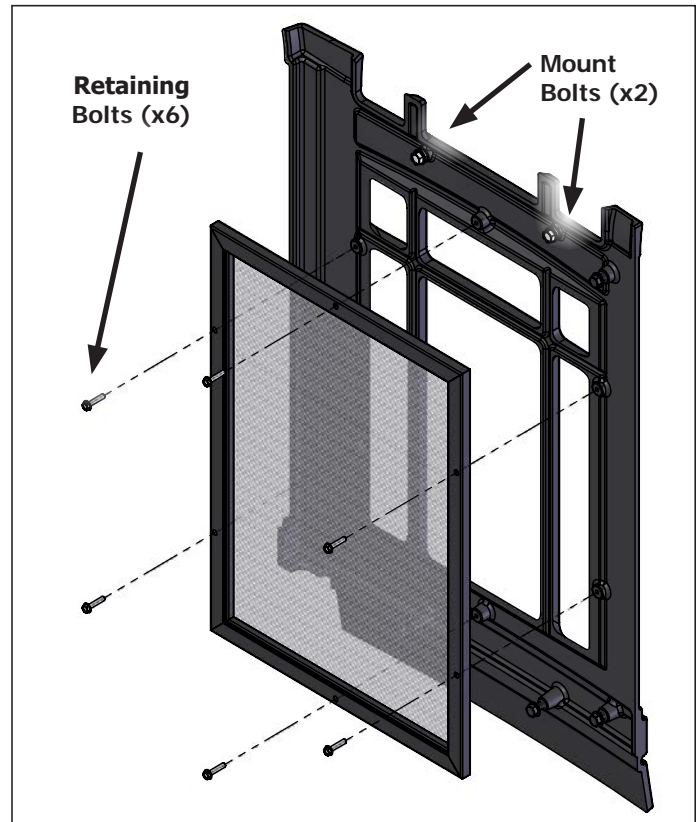

Figure 52. Safety Screen Removal - Side
**Step 6:** Remove the six (6) retaining bolts (Figure 52) using a 1/4" socket and remove the damaged screen while noting the orientation. Install the new screen (50-2344) by simply re-installing the retaining bolts.
**Step 7:** Re-install the cast side and tighten the two (2) top mount bolts. Re-install the cast door and top to finish.